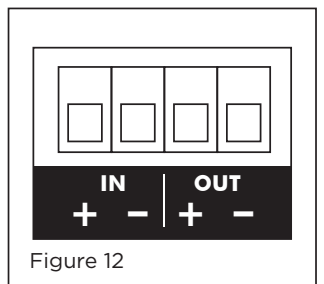

Figure 12
11. Connect the wires from your amplifier to the Euroblock connector (see Figure 12).